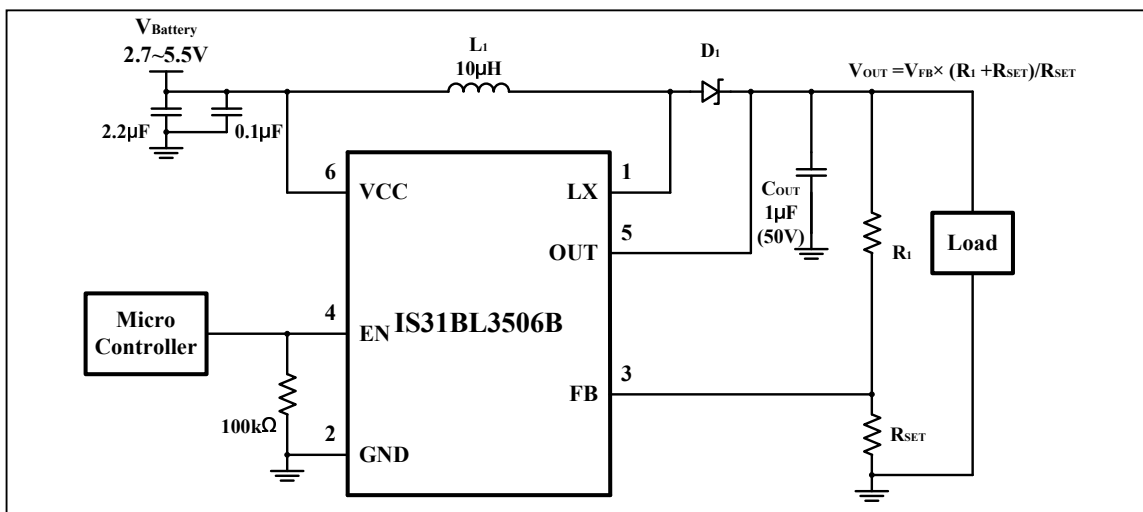

Figure 3 Constant output voltage for general purpose use
The IS31BL3506B can be configured to provide a constant output voltage (Figure 3). The output voltage level can be computed using the following equation, (5). The device internal V_{FB} is 0.2V (typ.).